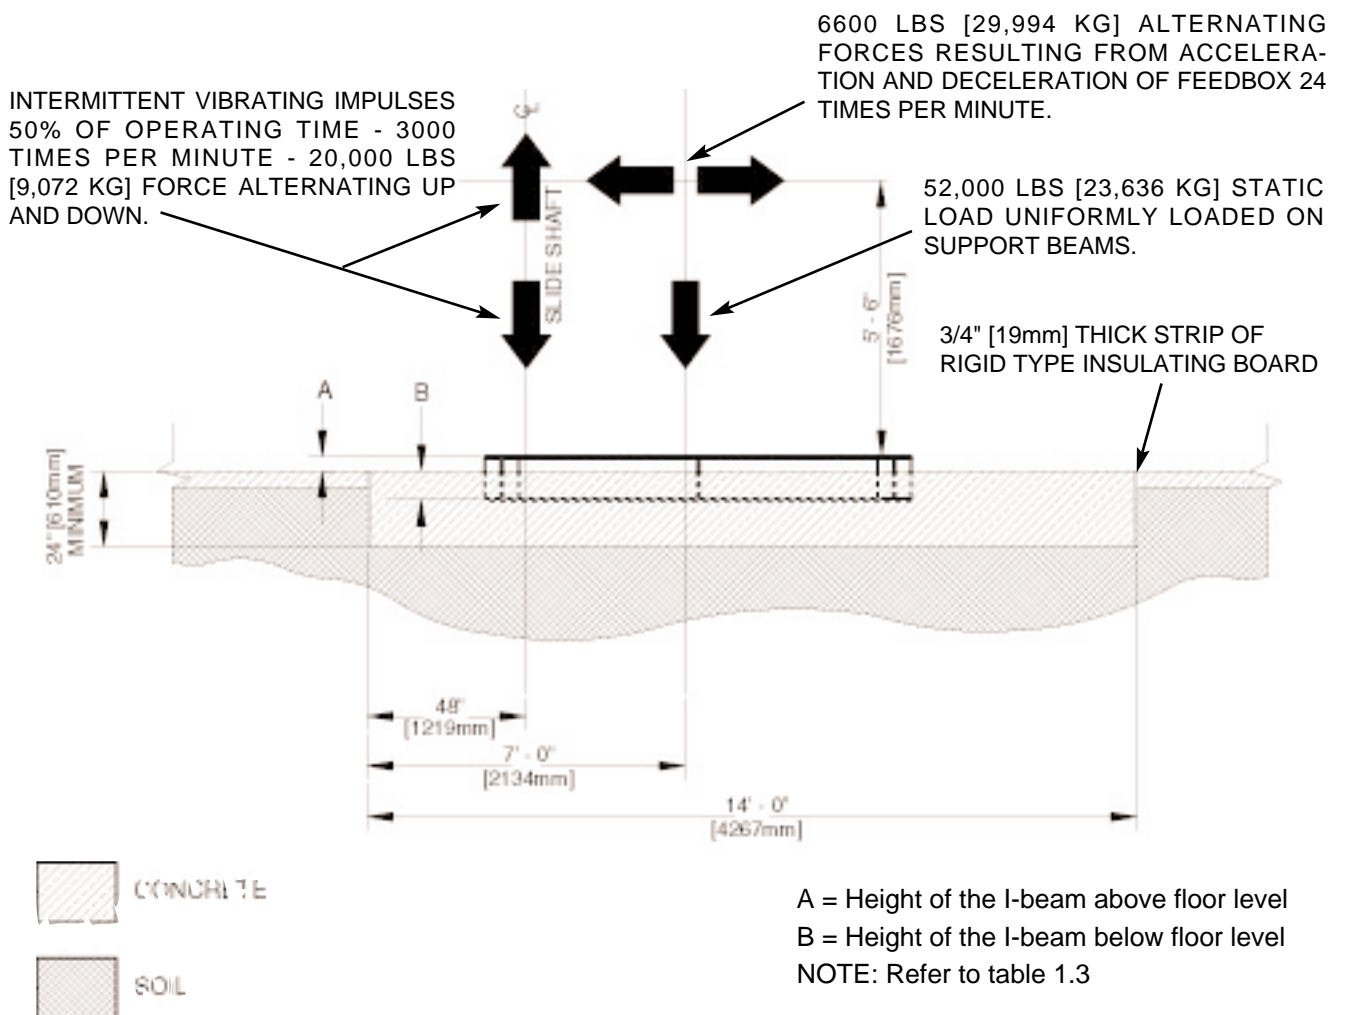

Figure 1.1 SIDE ELEVATION
1. The framework should be prepared according to specifications presented in figure 1.1, 1.2 and 1.3.
3. The length, width and thickness of the foundation specified in figures 1.1 and 1.2 represent minimum dimensions. The DYNAPAC foundation can be increased in length, width or thickness to accommodate existing soil conditions.